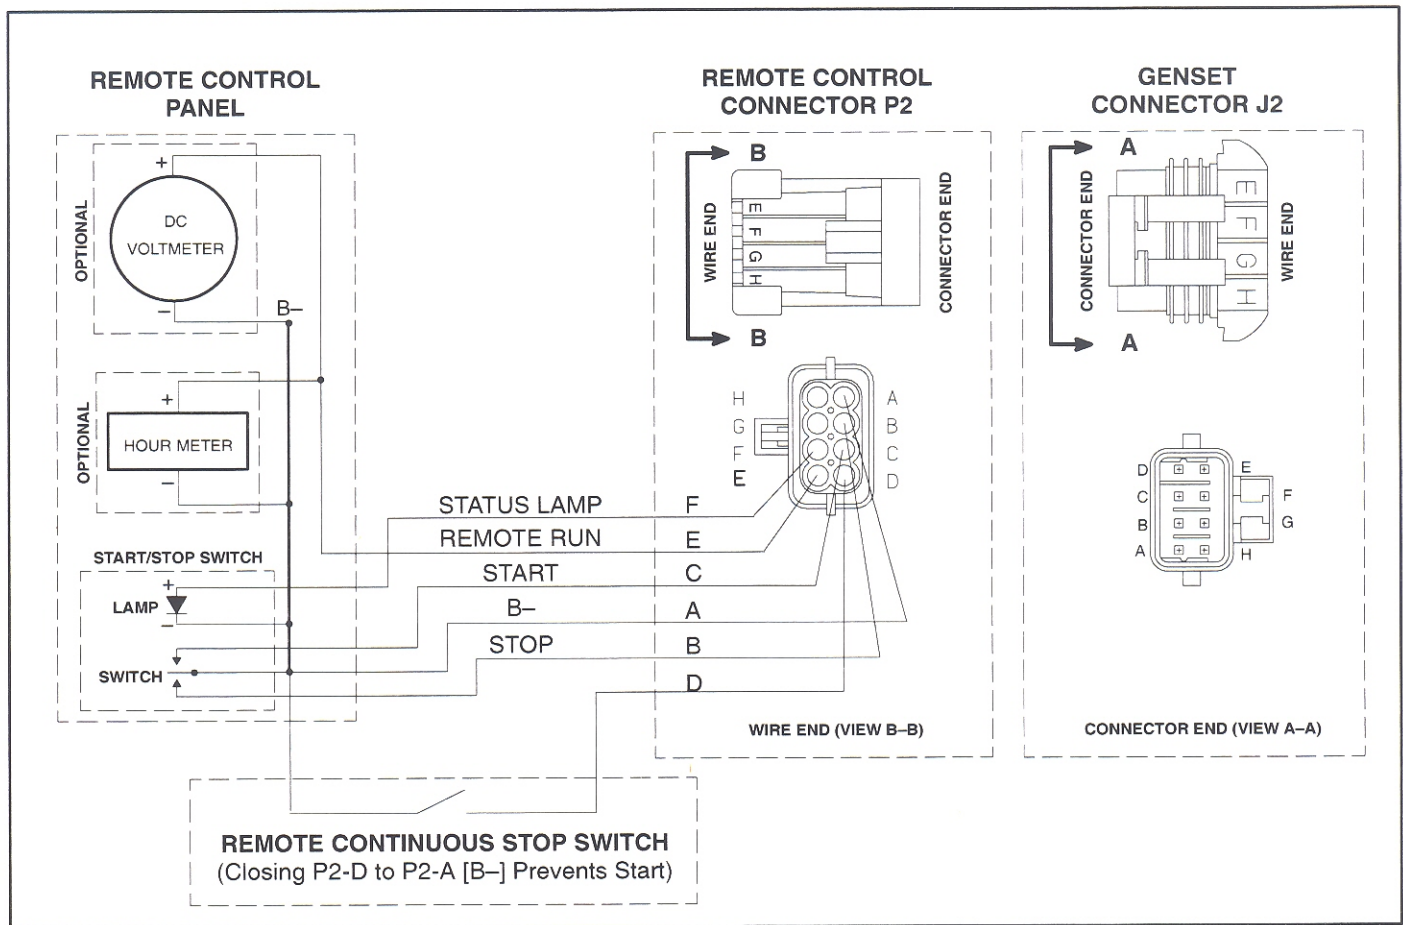

FIGURE 21. SCHEMATIC OF TYPICAL REMOTE CONTROL CONNECTIONS
2. Refer to Figure 21 to fabricate the remote control panel and/or wiring harness when not using the accessories available from Onan. Mark the remote control end of each lead to identify the connector pin number at the genset. Use insulated 18 AWG copper conductors for distances up to 30 feet (9 metres) and heavier gauge conductors for greater distances. Protect the wiring with full-length flexible sheathing.
3. A “continuous stop” switch located in the cab and/or boom bucket can be installed in the remote control circuit to prevent unauthorized operation of the genset by not allowing cranking (Figure 21).